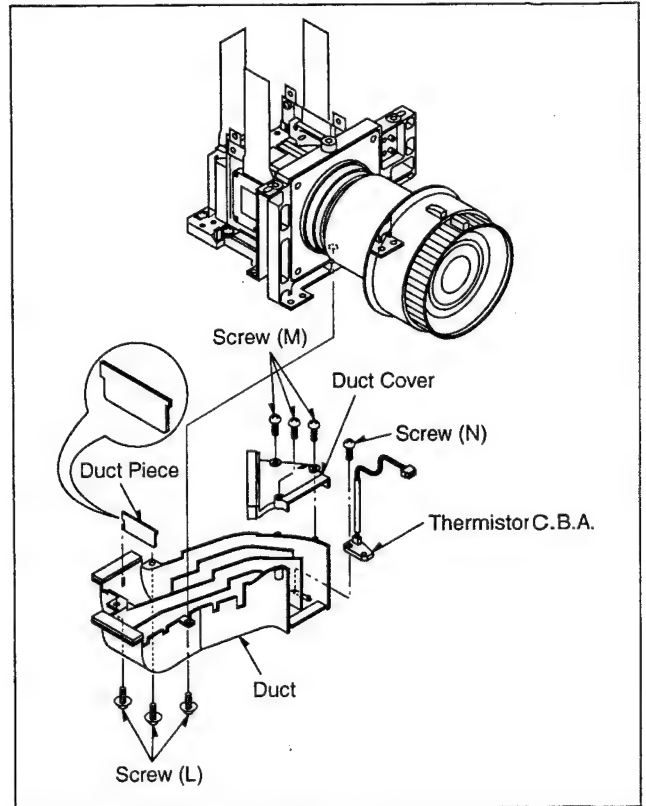

Fig. O12
1. Remove 3 screws (L) to remove the Duct along with the Thermistor C.B.A as shown in Fig. O12.
2. Remove 3 screws (M) to remove the Duct Cover.
3. Then remove a screw (N) to remove the thermistor C.B.A.